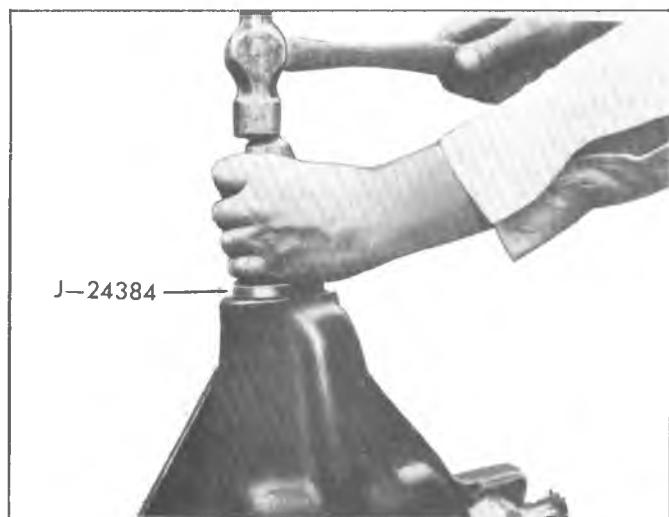

Fig. 11F—Installing Pinion Oil Seal
- Install new pinion oil seal into housing as shown in figure 11F, using J-24384.